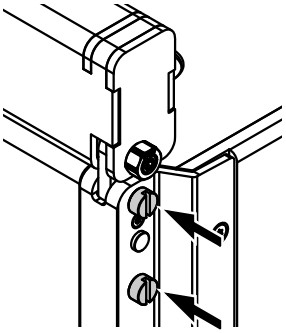

Fig. 2: SUB to SUB, 0° splay
2. SUB to SUB with 0° splay between the cabinets (⇒ Fig. 2).